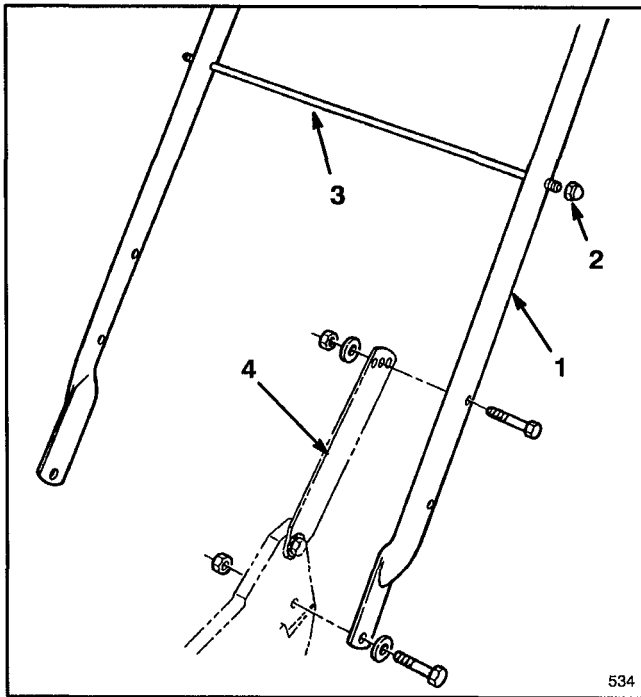

Figure 1
### INSTALL HANDLE (Fig. 1)
2. Secure handle latches to handle with (2) 5/16-18 x 1-1/2" lg. capscrews, washers and nylon insert locknuts.
3. Slide bag support rod thru **top** mounting holes in handle and secure each end with a cap locknut (Fig. 1).